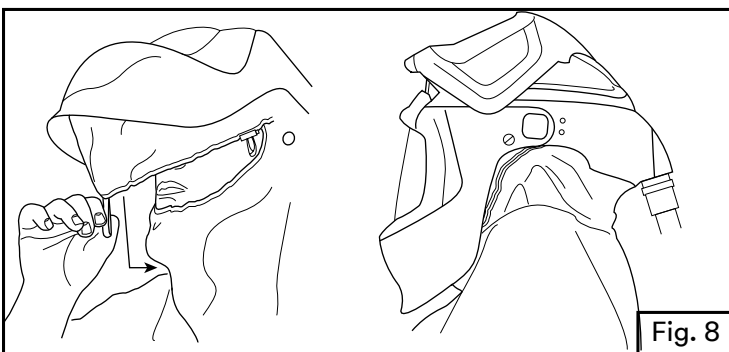

Fig. 8
- a. Pull down on the loop located on the outside of the faceseal to help ensure the faceseal is seated under the chin and over the complete neck coverage. With the inner shield down, assure that the perimeter of the faceseal is pulled down and positioned over the complete neck coverage, such that no bare skin is exposed to spark, spatter and radiant light (Fig. 8).